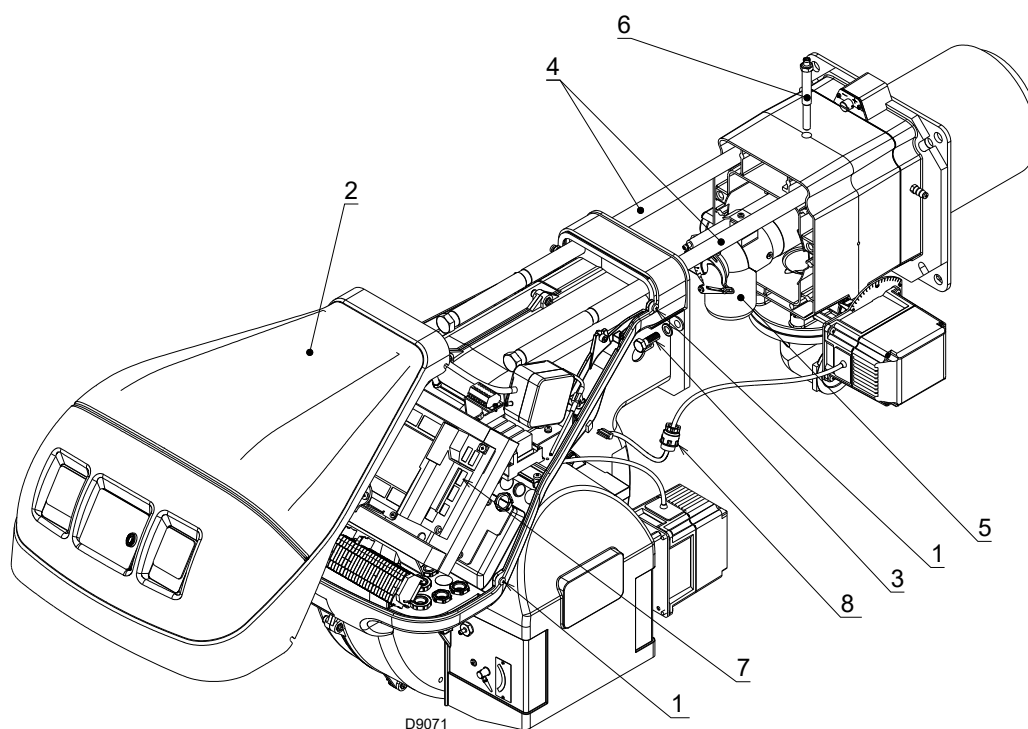

Fig. 42
Make sure that the gas outlet holes for the start-up, on the combustion head distributor, are free of dirt or rust deposits. If in doubt, disassemble the elbow (Fig. 42 at page 55).
- Loosen the 4 screws 1) (Fig. 42) and remove the hood 2).